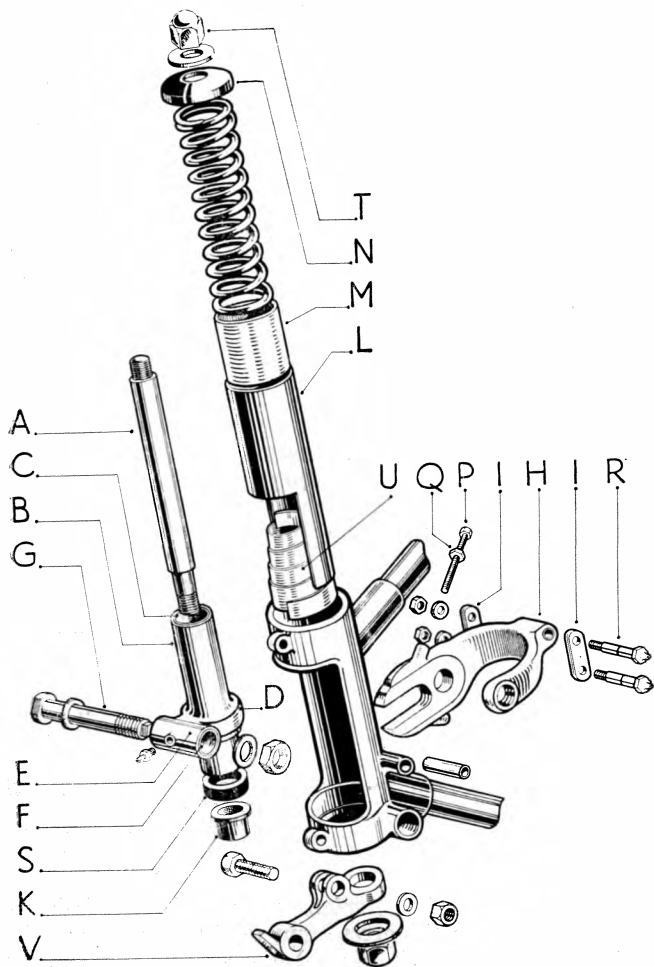

Fig. 27. Spring Frame Series "B".
**Lubrication.**—The complete slider mechanism is lubricated by applying the grease gun to the nipple(s) on the slider boss marked “**E**” (Fig. 27) and to ensure a smooth and
efficient action, lubrication should be carried out every 250 miles. The short connecting link bearings are lubricated by grease gun application to the nipple headed link bolts marked R (Fig. 27).